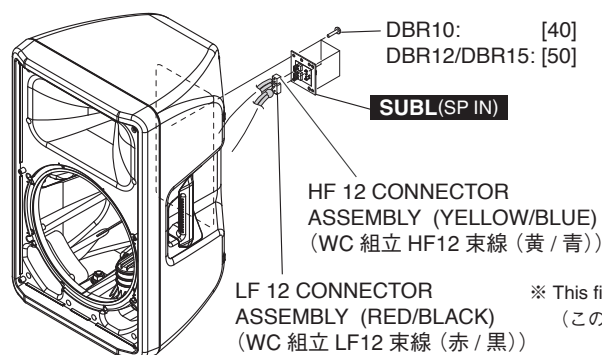

Fig. C-1 (図C-1)
- C-1-4 Remove the HF/LF connector assembly from the SUBL (SP IN) circuit board. (Fig. C-1)
- C-1-5 Remove the four (4) screws marked [40] (DBR10) or marked [50] (DBR12/DBR15). The SUBL (SP IN) circuit board can then be removed. (Fig. C-1, Photo C-1)
- C-1-4 WC組立HF/LF束線をSUBL (SP IN) シートから外します。(図C-1)
(図C-1、写真C-1)